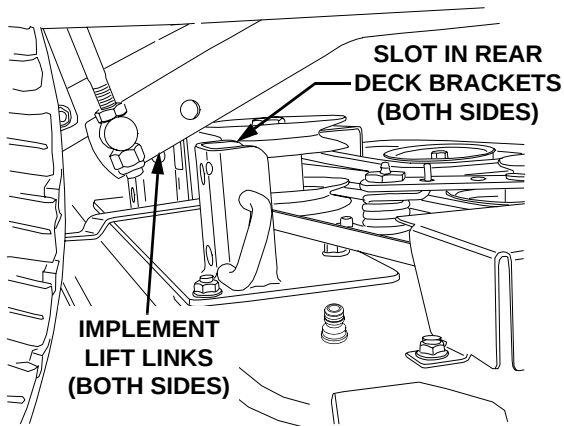

Figure 6-19
3. Make sure the slot in both rear deck brackets aligns with the implement lift links on each side of the tractor (See Figure 6-19).